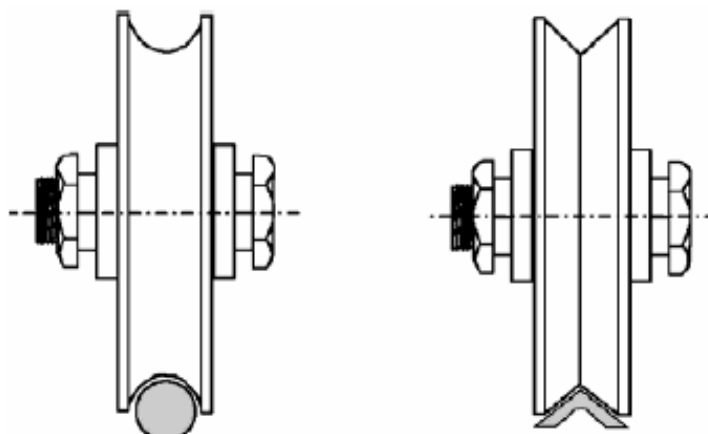

Fig. 4
- Check that the wheels (**Fig. 4**) used are suitable for the type of runner on the ground